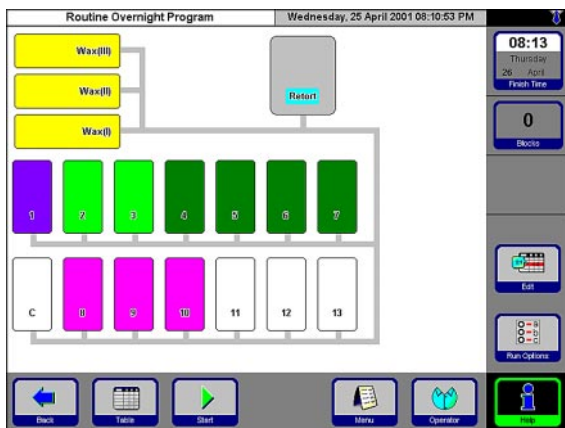

Fig. 27
- A graphic representation of the stations / retort will be displayed with the stations required for the program you are about to start colored in the corresponding reagent group colors (Fig. 27).